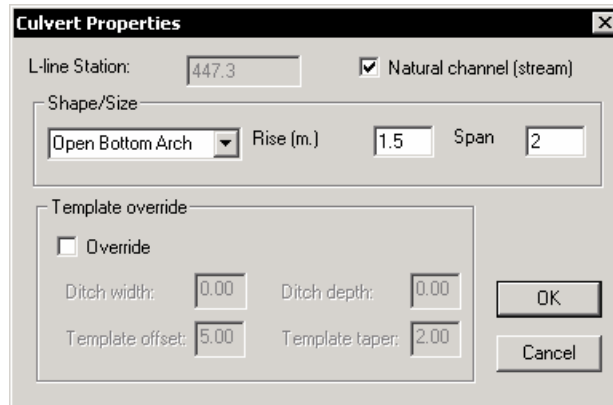

Figure 7.4: Culvert Properties Dialog
9. Press the *Properties* button in the culvert editor and change the dialog so that it appears like the Figure 7.4 Press *OK*.